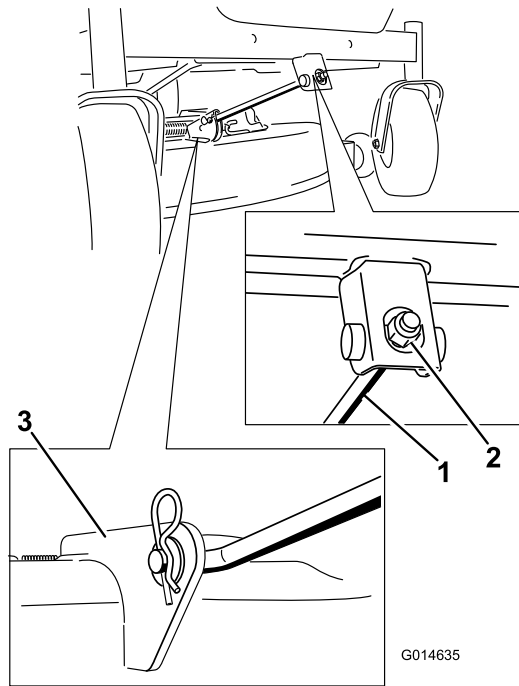

Figure 56
4. Remove the hairpin cotter from the front support rod and remove the rod from the deck bracket (Figure 56).
6. Attach the front support rod to the mower deck with the clevis pin and hairpin cotter (Figure 56).